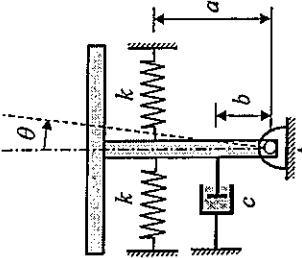

Figure 5
- (b) Figure 5 shows a T-shaped frame hinged at A and connected to two springs of equal stiffness k and a damper of damping coefficient c as illustrated. The T-shaped frame is made of two uniform rigid bars of equal length L and equal mass M . In the position shown, the springs are free (unstrained).
- Derive the equation of motion for the system in terms of the coordinate θ shown in Figure 5, and thereby determine the natural frequency of the system (ω_n) in terms of a , k , M and L . Show your derivations clearly by drawing appropriate free body diagrams.